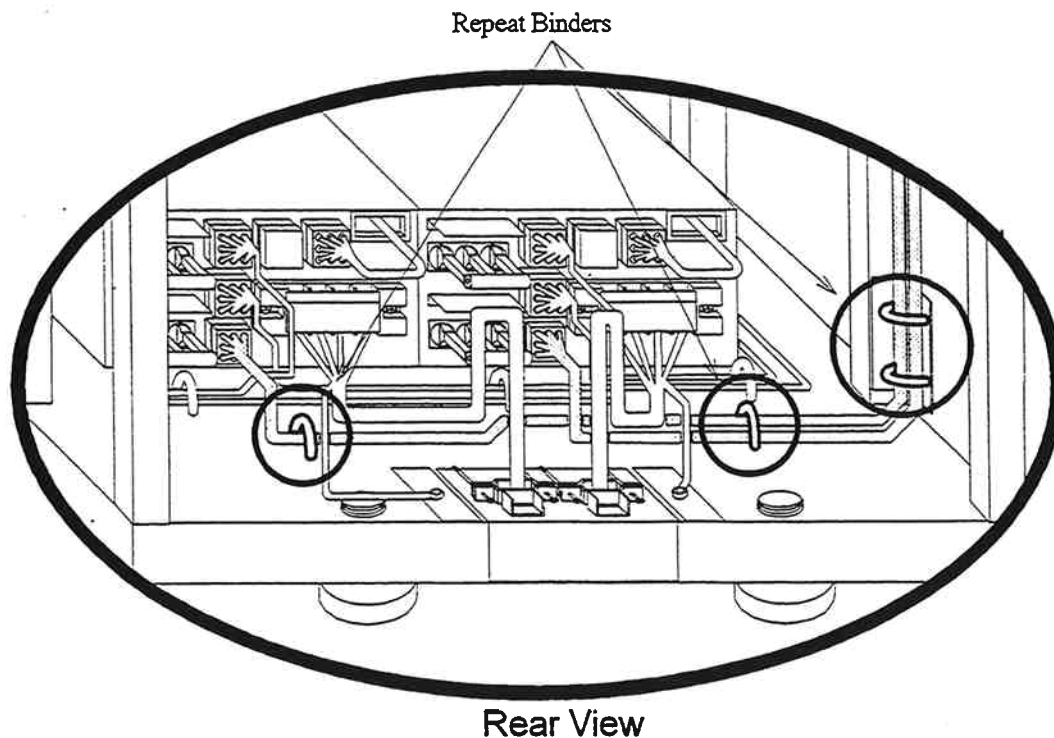

Fig. 3.3.3.5.1-7 Fastening of AC Power Cables for the Disk Controller
6. Re-Install the plate. Refer to Fig. 3.3.3.5.1-8